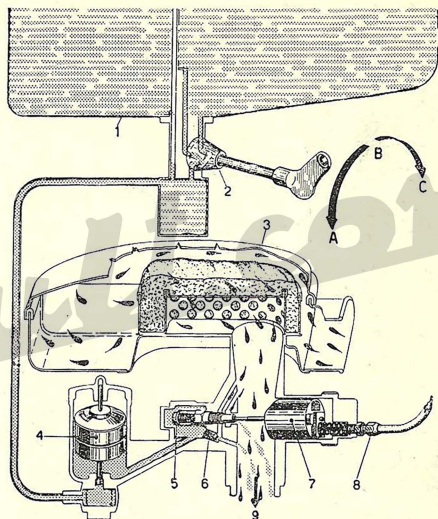

Fig. 8 — Feeding circuit
**Feeding.** Fuel feed to the carburettor (see Fig. 8) is provided for by gravity directly from the tank with petrol oil mixture.
**Starting the engine.** See the fuel tap and main switch positions on Figs. 8 and 14 respectively.